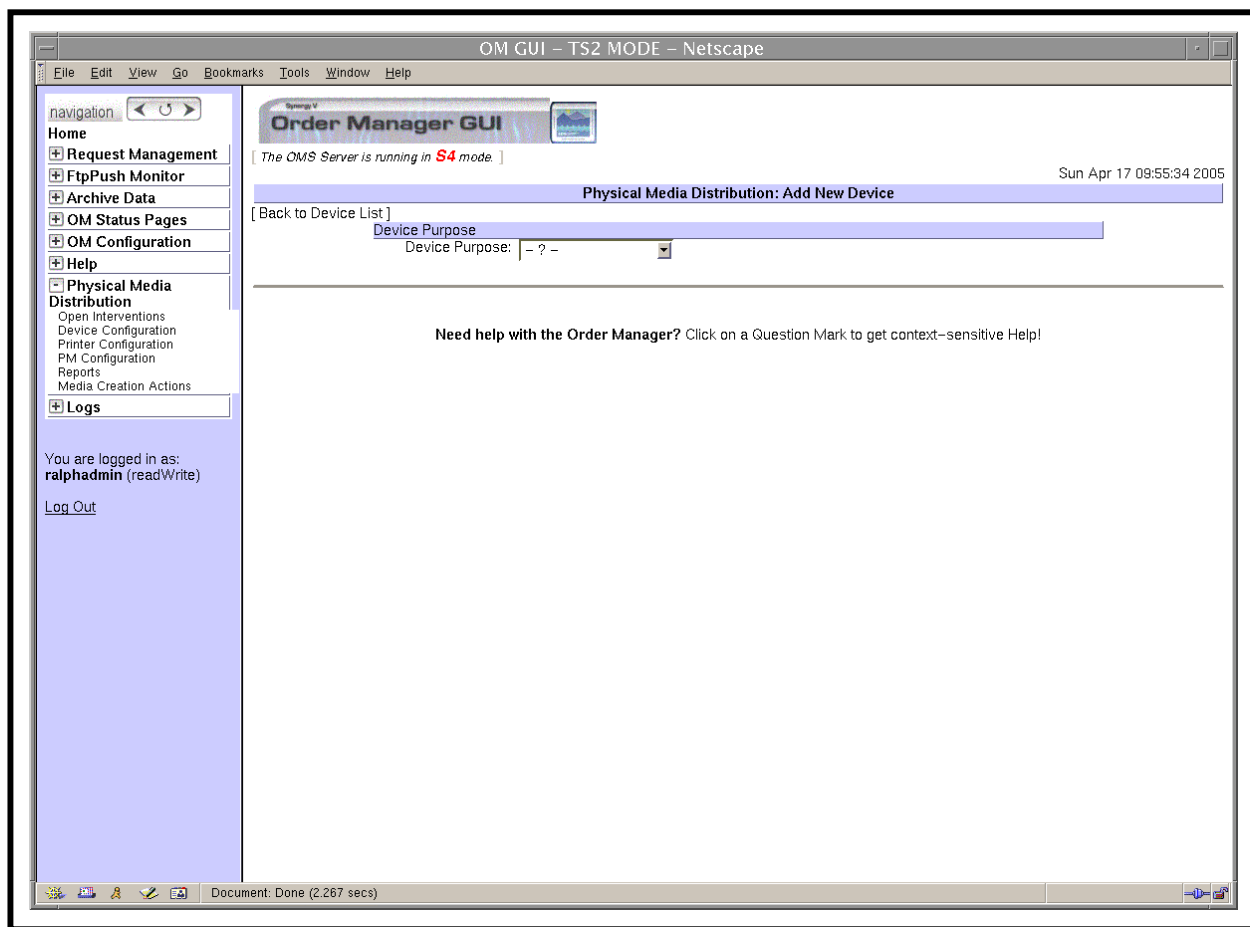

Figure 78. Add New Device Page
- An **Add New Device** page (Figure 78) is displayed.